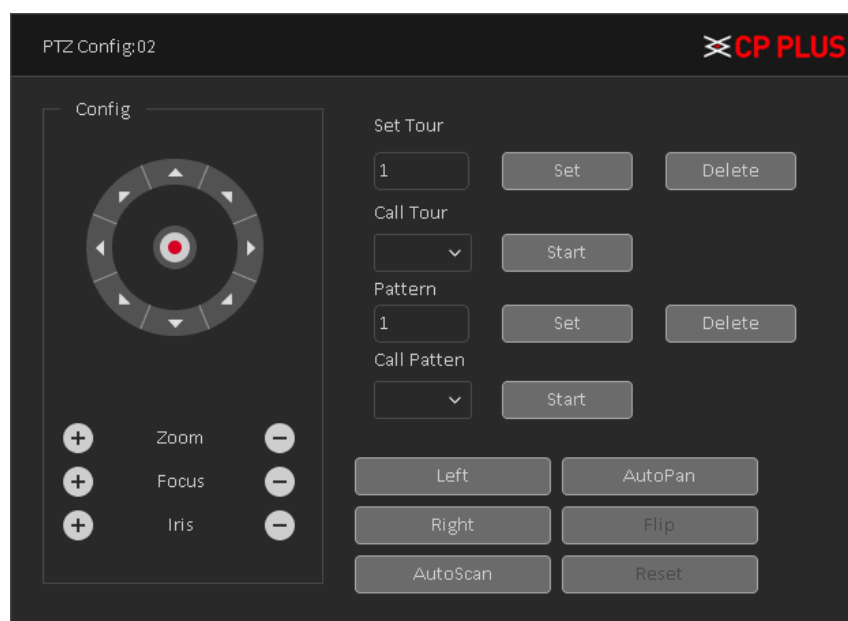

Figure 3.19
- **[Advanced]** To enter a new operation page as shown in Figure 3.19
- Then click on to delete particular tour. See Figure 3.19
- Then Click on , PTZ will turn to preset position. See Figure 3.19
- Then click on to delete particular pattern. See Figure 3.19.
- Then Click on , PTZ will start follow pattern path. See Figure 3.19.